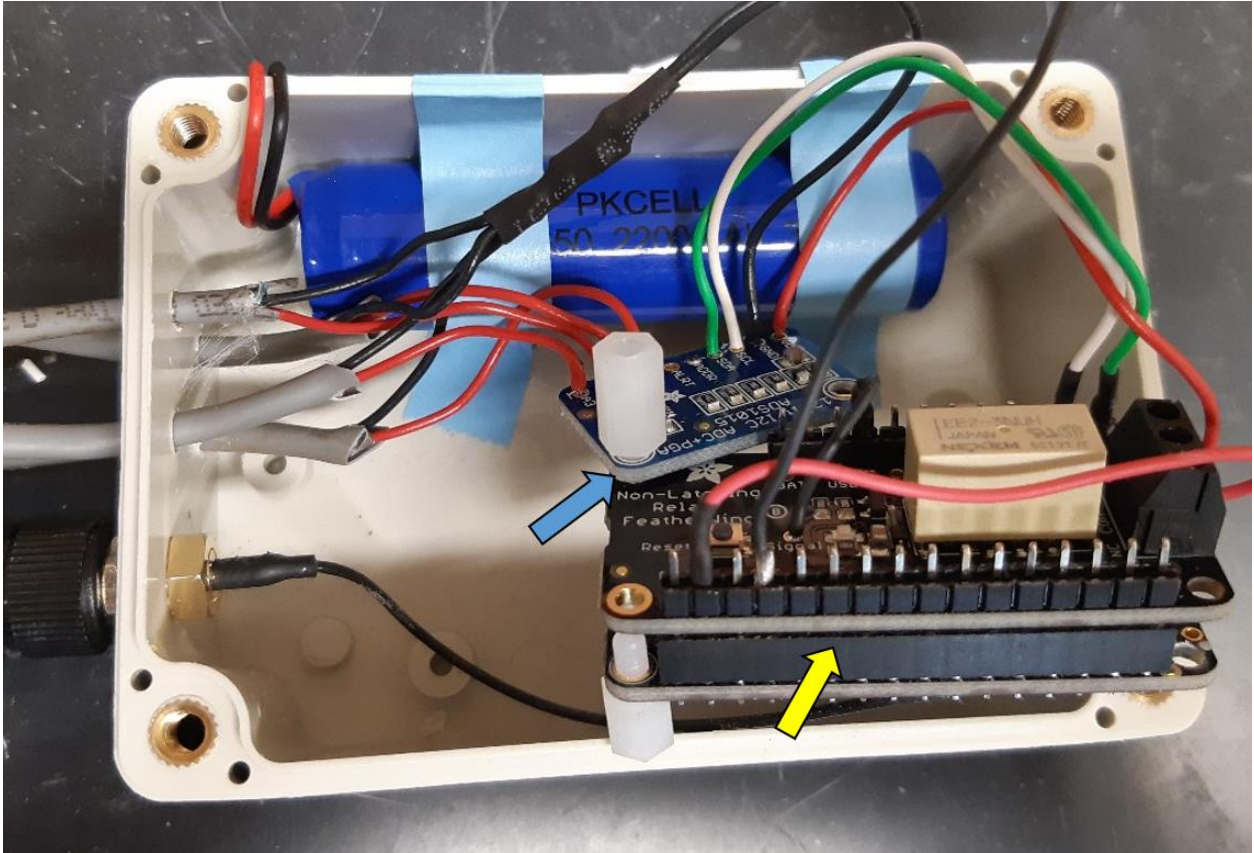

Fig. S3. Underground node overview. The yellow arrow marks the mounting area of the power relay on the LoRa Feather (step 1.1.4).
1.1.4. Solder the short header kit (Short Feather Male Headers - 12-pin and 16-pin Male Header Set) to the power relay (Adafruit Non-Latching Mini Relay FeatherWing), and then mount it on the LoRa-Feather (**Fig. S3**, yellow arrow).